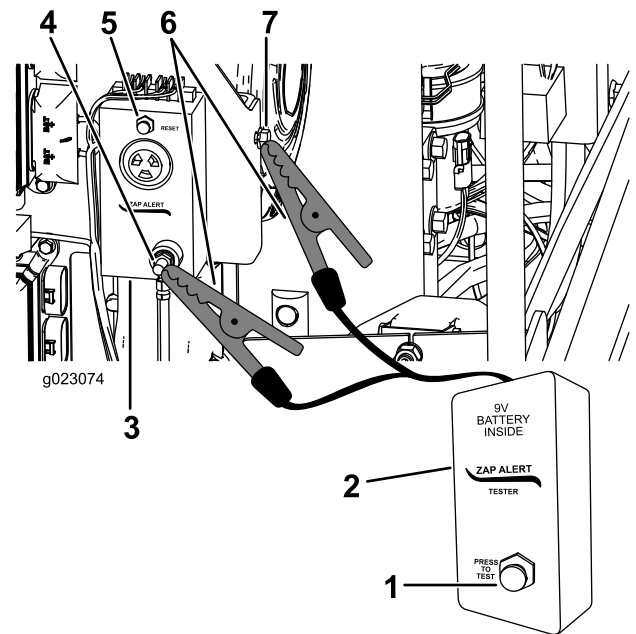

Figure 62
3. Connect an alligator clip from the Zap-alert tester to the grounding stud on the Zap-alert system (Figure 62).
5. Press the Test button on the Zap-alert tester (Figure 62).
6. Press the Zap-alert reset button to stop the alarm (Figure 62).